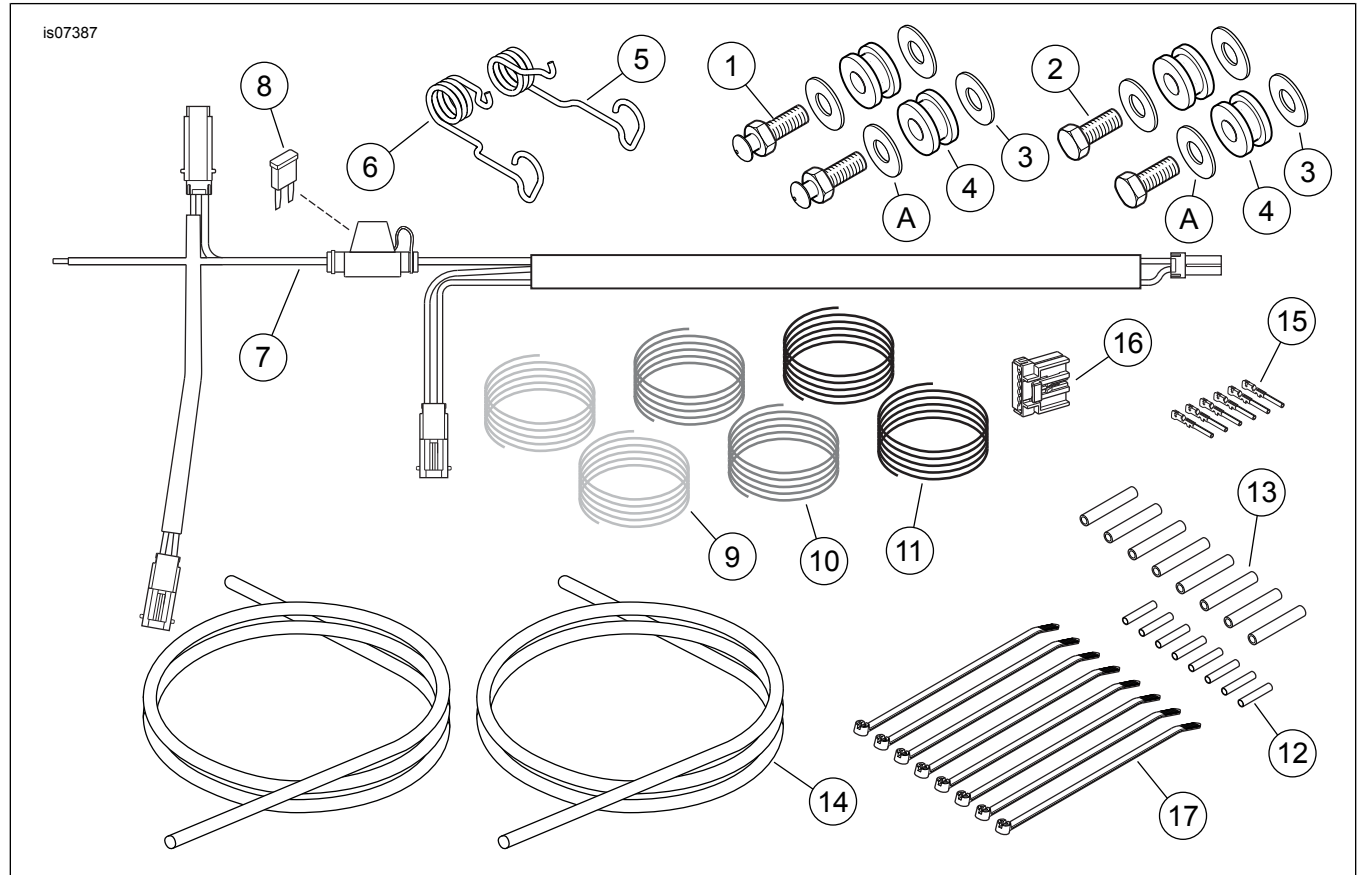

Figure 4. Service Parts, FLSTF Auxiliary Lamp Mounting and Turn Signal Relocation Hardware Kit
See Figure 4 and Table 1.
- See Figure 4. Get a mushroom head mounting pin (1), a hex head cap screw (2), two plain washers (3) and two bushings (4) from **this** kit, two chrome washers (A) from the FLD Auxiliary Lamp Mounting Kit, and the correct-side auxiliary lamp and mounting bar assembled earlier.
12. See Figure 4. Get the six wires (9, 10, 11), six wire connectors (12) and six pieces of shrink tube (13) from the kit. Cut and strip the ends of each wire per the instructions in the service manual appendix. Slide a piece of shrink tube onto one end of each of the six wires.